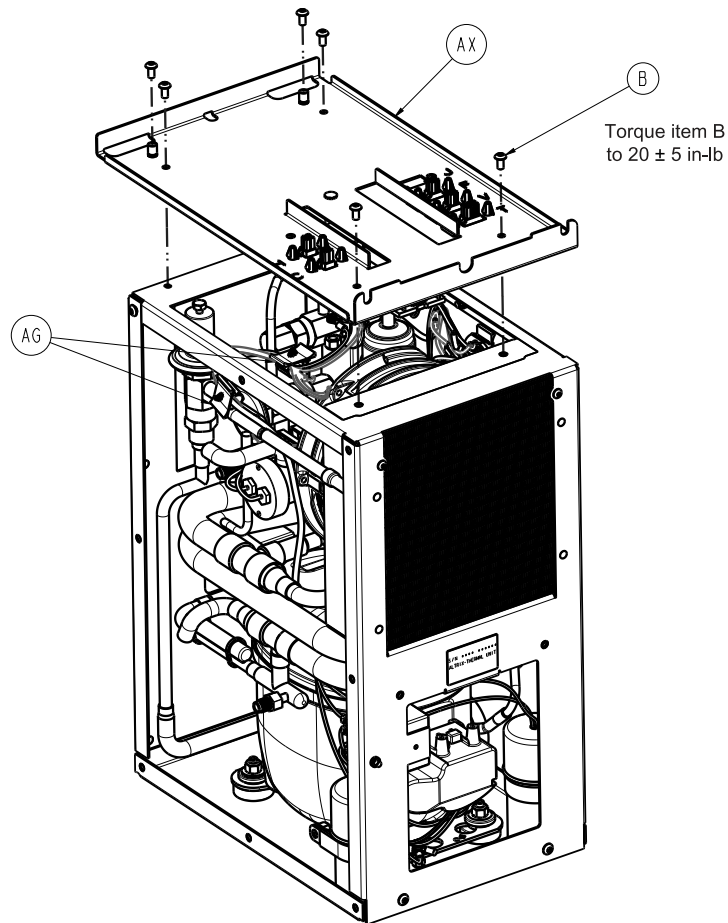

Figure 21 – Top bracket
15. Using a T25 Torx driver, remove the four screws (B) that secure the top bracket (AX) to the thermal unit (Figure 21). Save the screws.